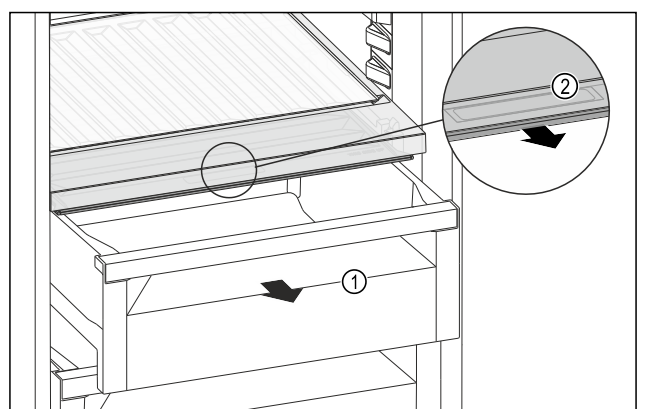

Fig. 97
- Pull out the drawer Fig. 97 (1).
- Grasp the recessed grip Fig. 97 (2) on the compartment lid and pull the compartment lid forwards at the same time.